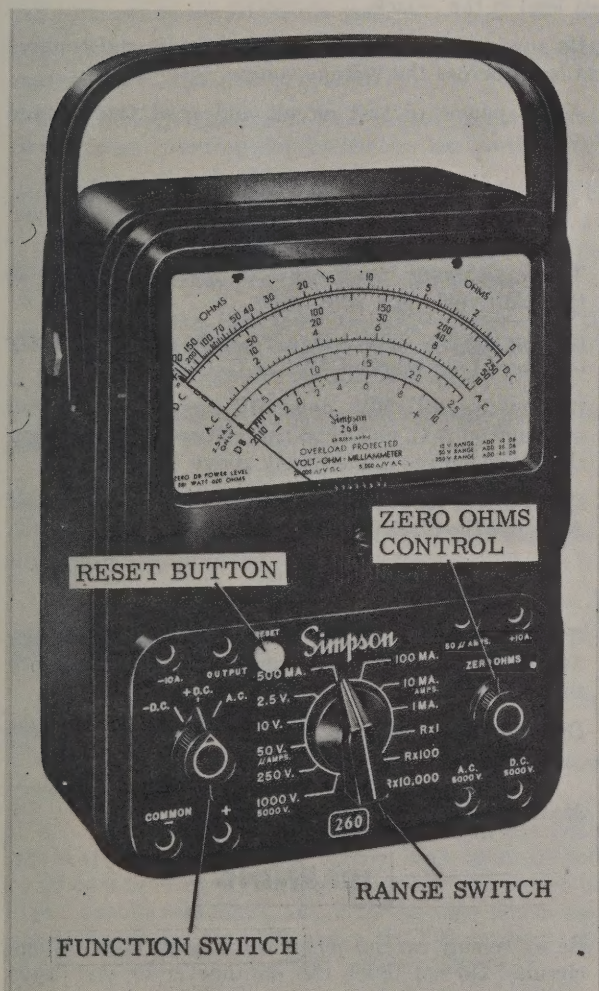

Figure 3-1. Volt-Ohm-Milliammeter Operating Controls
(See Figure 3-1)
1. Set range switch (See Figure 3-1) at the Rx 10,000 position.
- (1) Connect clip ends of test leads together to short out the resistance circuit.
- (2) Observe the meter indication; pointer should indicate 0 on the right hand end of the OHMS arc at top of dial.
- (3) If meter indication is not 0, rotate the ZERO OHMS control (figure 3-1) until pointer indicates 0. If pointer will not indicate 0, battery B1 or B2 must be replaced. Replace 1.5-volt battery B1 if Range Switch is set at either R x 1 or R x 100 position. Replace 15-volt battery B2 if Range Switch is in R x 10,000 position.
- (4) When pointer indicates zero, disconnect the clip ends of test leads. The ohmmeter circuit is now ready to use.